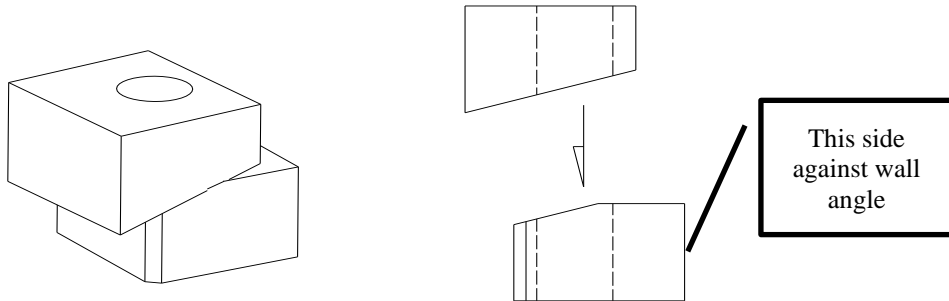

**Figure 3**
3. **Note: this system is not compatible with floor covings. If the wall you are mounting the system to has coving, it must be cut away for the system to be installed. The “wall support angles” must go all the way to the floor. See figure 3.**